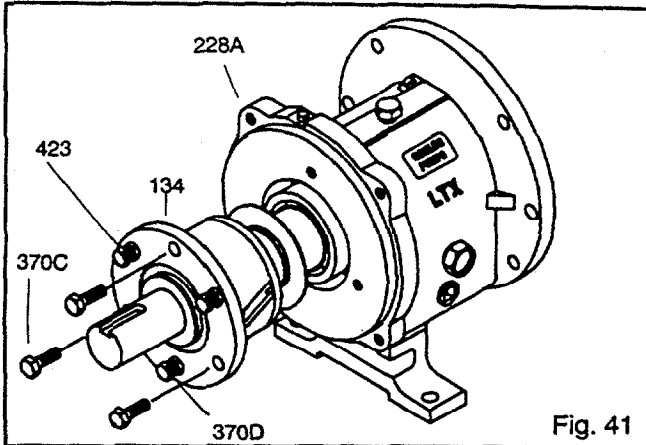

Fig. 41
1. Remove clamp screws (370C). Back off jam nuts (423). Tighten jack screws (370D) evenly, this will start bearing housing (134) out of bearing frame (228A) (Fig. 41).